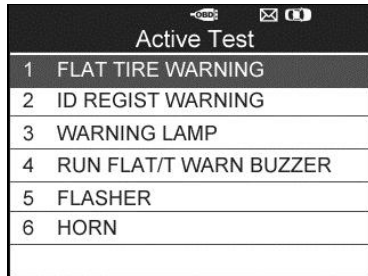

Figure 4.36
- 3) From **Active Test** Menu, use the **UP/DOWN** scroll button to select **Flat Tire Warning** function (Figure 4.36).